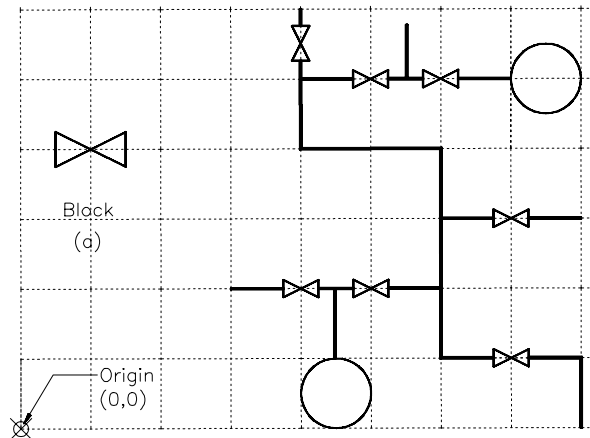

Figure 16-71 Drawing for Exercise 8
Draw the diagrams in Figure 16-71 using blocks.
- Create a block for the valve, Figure 16-71(a).